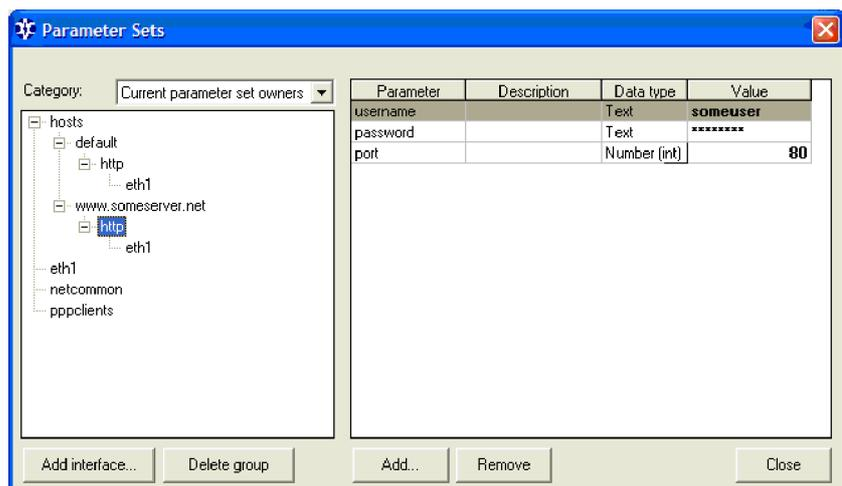

Figure 97 Configuring Settings for a Host
2. Enter hostname, select protocol, and select interfaces, if applicable. Interface selection is needed only for HTTP proxy settings. Click **OK** when done. Now the settings dialog looks as shown Figure 97 on page 221.